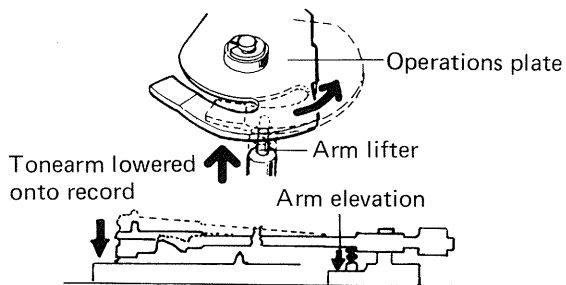

Fig. 8
7. Further rotation of the operations plate results in the tonearm being lowered onto the record (i.e. arm elevation is reduced) (Fig. 8).